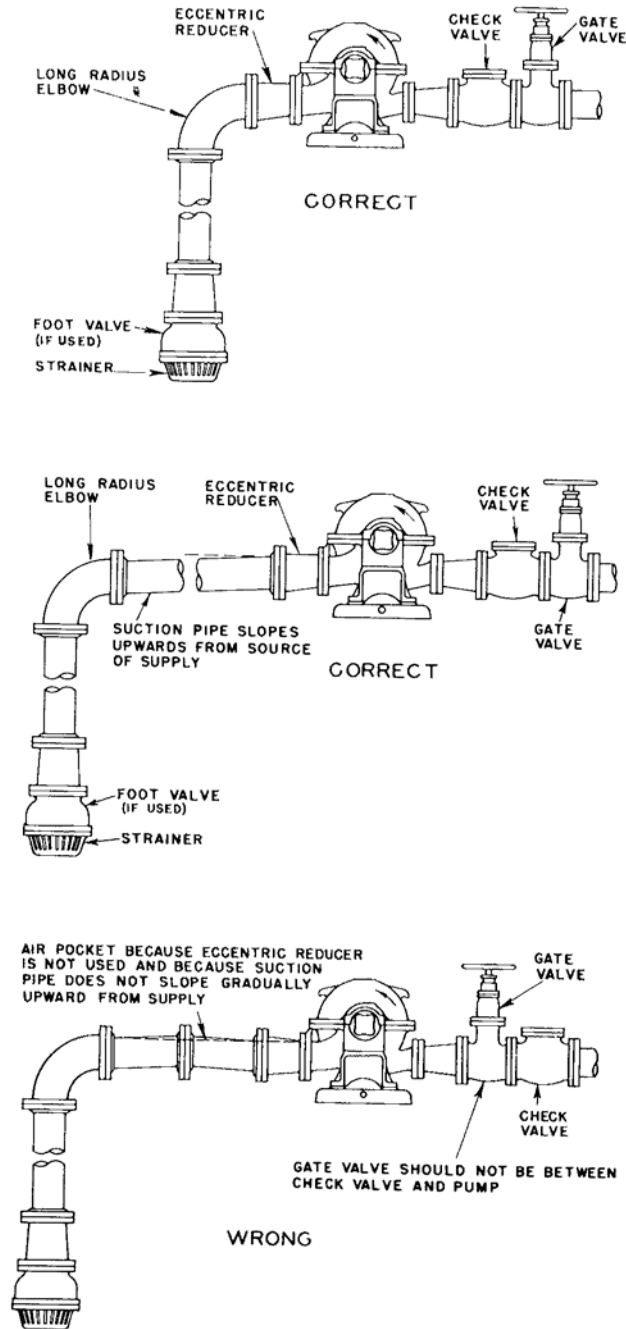

Figure 6:
- Keep suction pipe free from air pockets. See Figure 6: on page 16.
1. A gate valve and a check valve should be installed in the discharge line. The check valve should be located between the gate valve and pump to permit inspection of the check valve. The gate valve is required for priming, regulation of flow capacity and for inspection and maintenance of the pump. See Figure 6: on page 16.